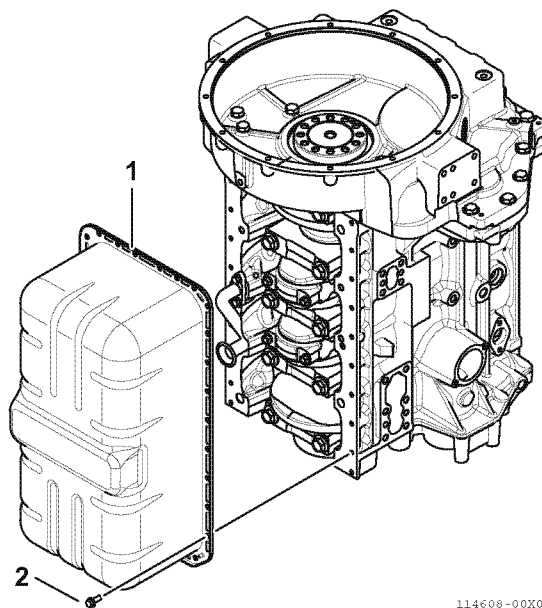

Fig.03-10
2. Apply liquid gasket to the attaching face of the oil pan (1, Fig.03-10), and then attach the cylinder block and tighten the bolts (2, Fig.03-10) to the specified torque.